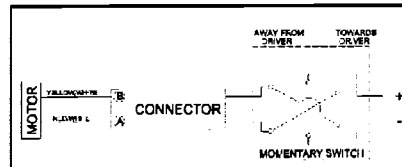
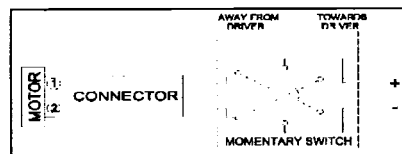

Figure 3
Figure 4
3. Connect the (2) pin, motor connector to the vehicle wiring harness [see Figure 3 (PNs 67075-xxx) or Figure 4 (PNs 67076-xxx & PNs 67090-xxx)].